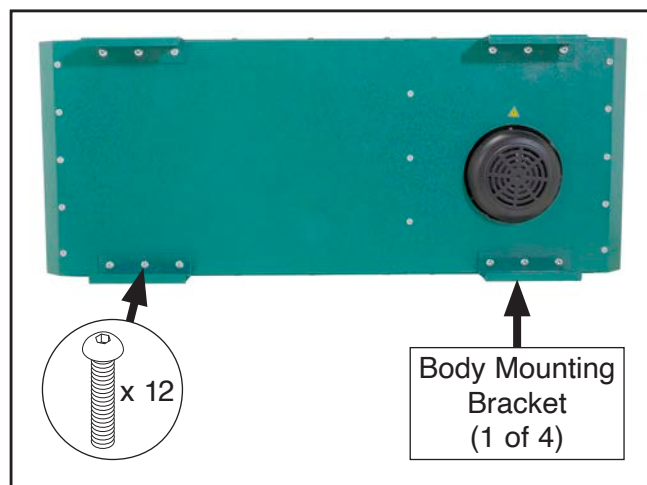

Figure 21. Body mounting brackets attached to machine body.
1. Attach (4) body mounting brackets to machine body with (12) pre-installed button head cap screws, as shown in **Figure 21**.